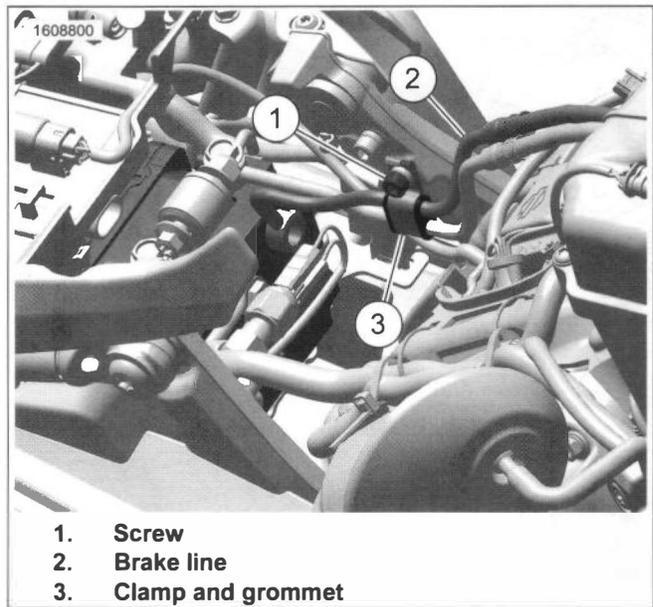
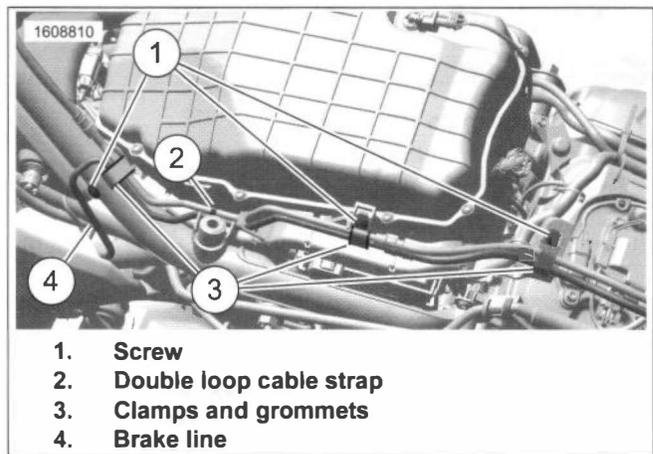

Figure 3-38. Rear Brake Line Clamp
Figure 3-39. Left Side Brake Line Routing
1. See Figure 3-38. Remove rear clamp.
- a. Remove screw (1).
- b. Remove clamp and grommet (3).
2. See Figure 3-39. Remove clamps.
- a. Remove screws (1).
- b. Remove clamps and grommets (3).
3. Remove brake lines line clip (2).
4. See Figure 3-38. Remove front caliper to ABS module brake line.
- b. Remove clamp and grommet (2).
- c. Remove clips (3).
5. Remove brake line (4).
1. See Figure 3-38. Place brake line in position (4).
- a. Install clips (3).
- b. Install clamp and grommet (2).
- c. Install screw (1).
2. See Figure 3-38 Install rear clamp.
- a. Install grommet and clamp (3).
- b. Install screw (1).
3. See Figure 3-39. Install double loop cable strap (2).
4. Install brake line left side grommets and clamps (3).
5. Install screws (5).